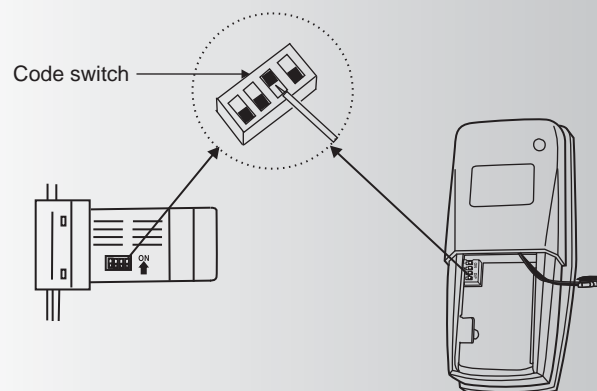

Fig. 12
**NOTE:** The Hand Held Control System is equipped with 16 possible frequency combinations to prevent interference from or with other remote control units. The frequency switches on your receiver and transmitter have been preset at the factory. Please recheck to make sure the switches on transmitter and receiver are set to the same position, any combination of settings will operate the fan as long as the transmitter and receiver are set to the same position. (Fig. 12)